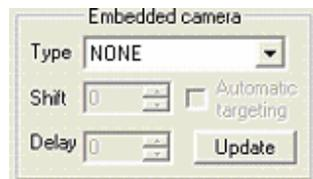

Figure 4-9: Embedded camera control
(11) For enable 3-Track control via laser sensor choose in “3-track camera setup screen” (Figure 4-4-b) camera “Type” – “via Laser sensor” option and press “OK”. After program restarted back to “Setup laser sensor” screen, choose a corresponding camera type (Figure 4-9) and press “Update”. For automatic tracking (directly from Laser sensor) – enable “Automatic targeting” option, adjust “Shift” and “Delay” (delay between targets) and press “Update”.